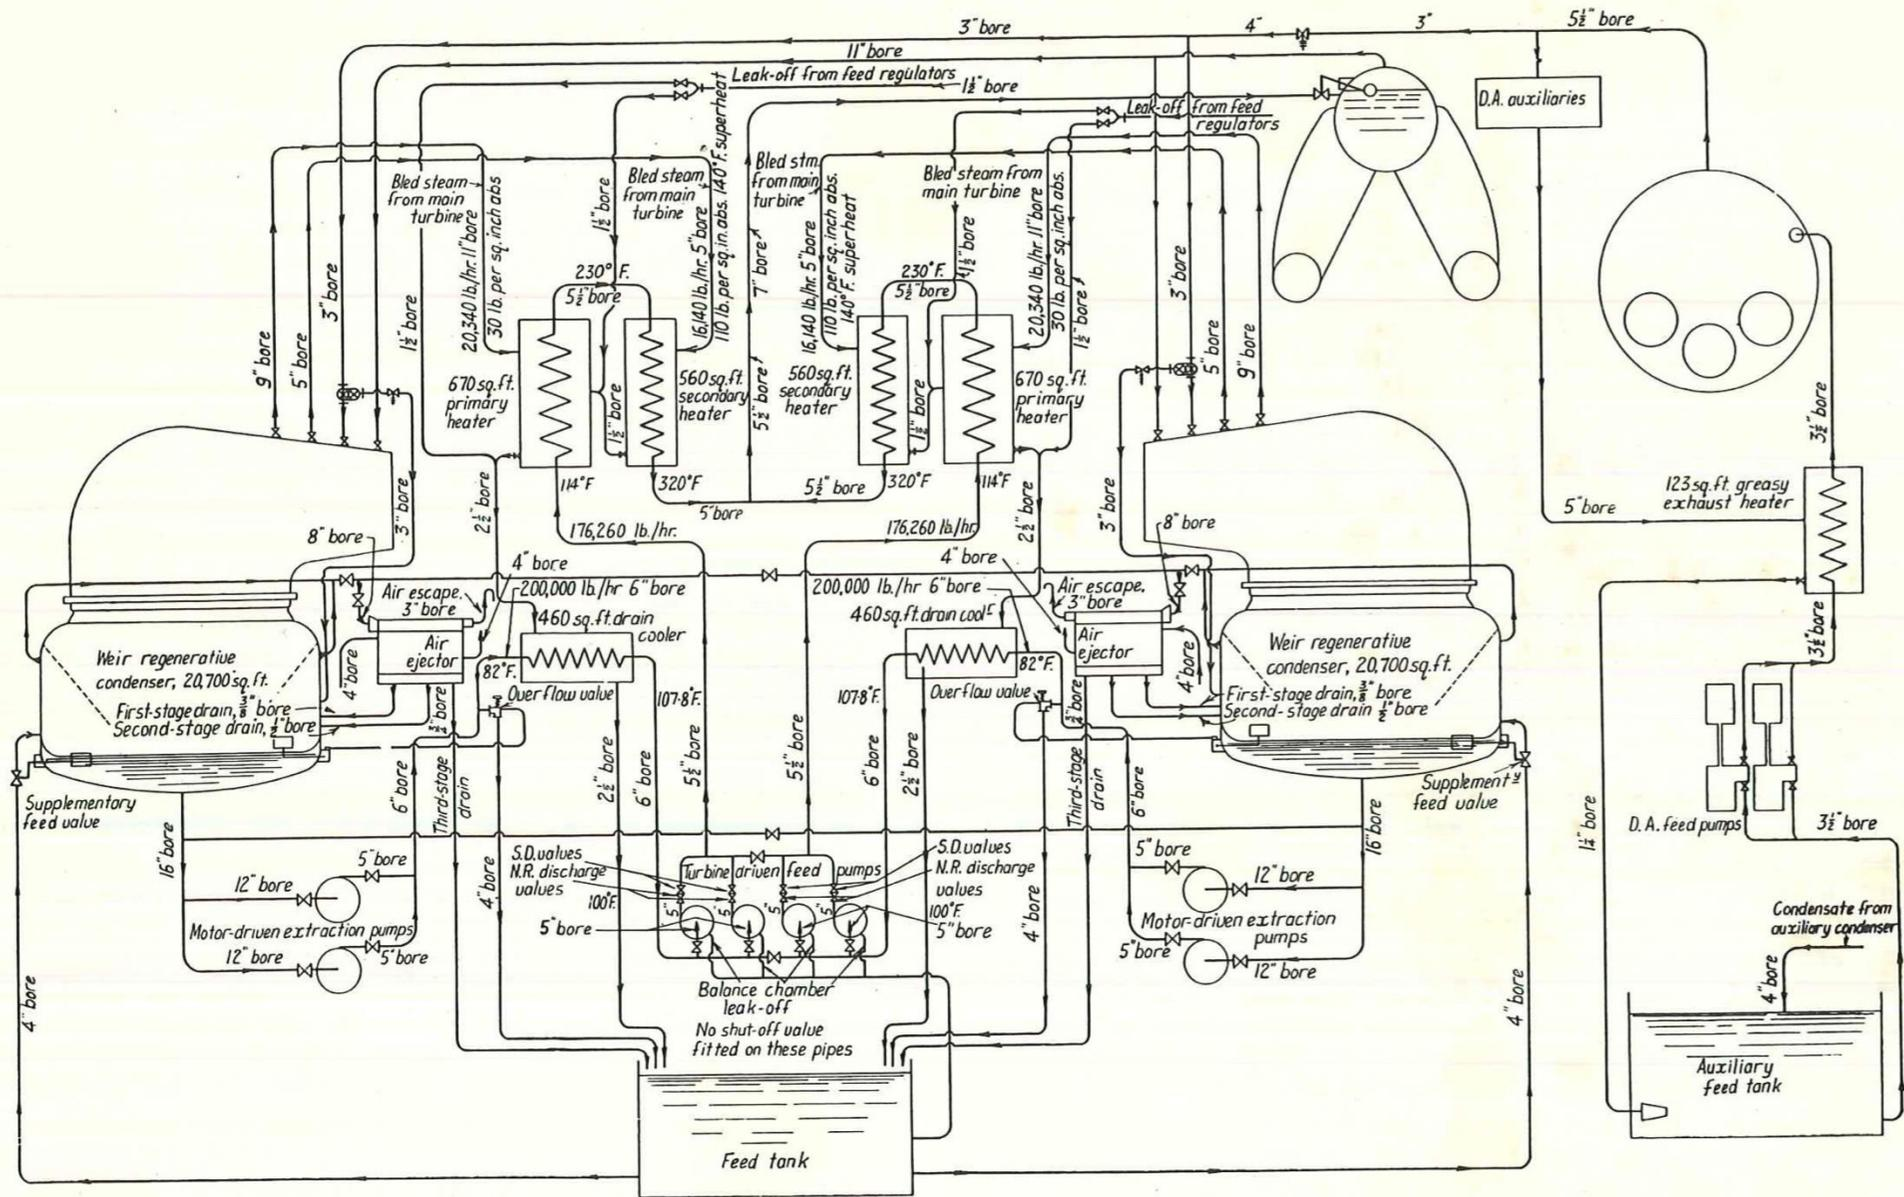

Figure 9 The feedwater and condensate system
6. The Feedwater and Condensate System (Figure 9)